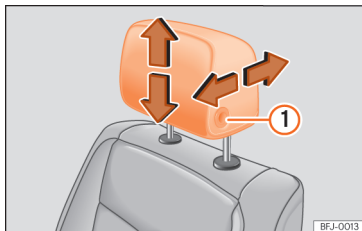
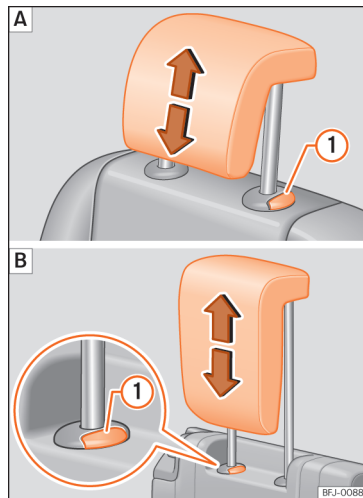

Fig. 142 Adjusting the front head restraints.
Fig. 143 Adjusting the rear head restraints: **A** Second row of seats, **B** third row of seats.
- Move the head restraint forward or back in the direction of the corresponding arrow while pressing the button »» Fig. 142 ①.
- Move the head restraint up or down in the direction of the corresponding arrow. Regarding the rear head restraints, to both raise and lower, press the button »» Fig. 142 ①; for the rear head restraints, it is only necessary to press the button »» Fig. 143 ① to lower them »» ⚠ in Introduction on page 150.